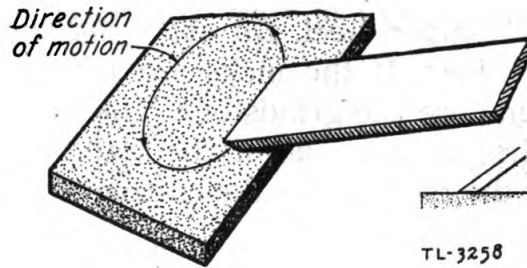

Figure 2
b. Crown splice.—See figure 2 (b).
(6) Continue the weaving in the following manner (fig. 2(b)F):
moderate amount of pressure and move the tool over the entire surface of the stone with a rotary motion as illustrated in figure 2.
Use as small a circle as possible, as this gives better control over the tool. A rocking motion should be avoided, as this soon destroys the hollow grind obtained from the carborundum wheel and makes it practically impossible to sharpen the tool on a flat stone without regrinding. As the cutting edge of the bevel becomes thin, it will be noted that a burr or wire edge is formed on the back of the tool. This is removed by placing the back of the tool absolutely flat on the stone and using the rotary motion illustrated in figure 2. Plane cutters usually have a small portion of each end ground off to prevent them from biting into the wood being smoothed. When all nicks have been removed from the tool, hone to the correct cutting edge on the oilstone, using the procedure given above.